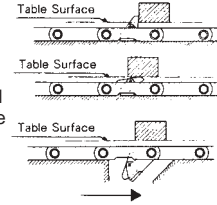

Figure 6.23 Installation of Pushers on Block Chain
- (1) Greater impact resistance due to the strong construction and high rigidity.
- (2) Higher strength considering chain weight.
- (3) All the main parts are heat-treated for greater wear resistance against the guide rails.
- (4) Usually the bottom side of the plate slides on the guide rail; the chain does not have rollers. It's possible to push and carry conveyed objects on the guide rails using special pushers (dogs) attached to the chain (Figure 6.23).